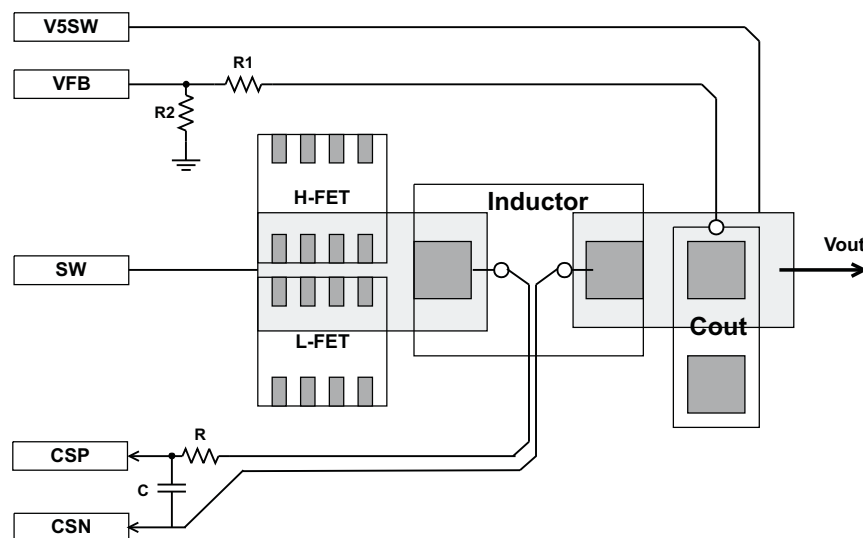

Figure 50. Sensing Trace Routings
- Use separate traces for; see Figure 50